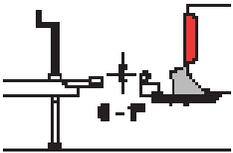

Figure 2
3. Slide the hitch head onto the shank with the top of the hitch ball between 0 — 1" above the top of the trailer coupler. (Figure 2)